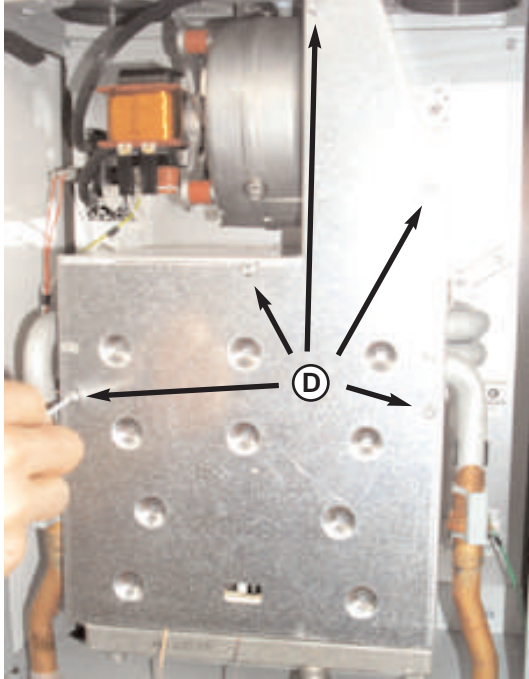

Fig. 46a
2. Unscrew five self tapping screws "D" to release the combustion chamber front panel and lift clear (for the 24kW see Fig. 46a, for the 30kW see Fig. 46b);